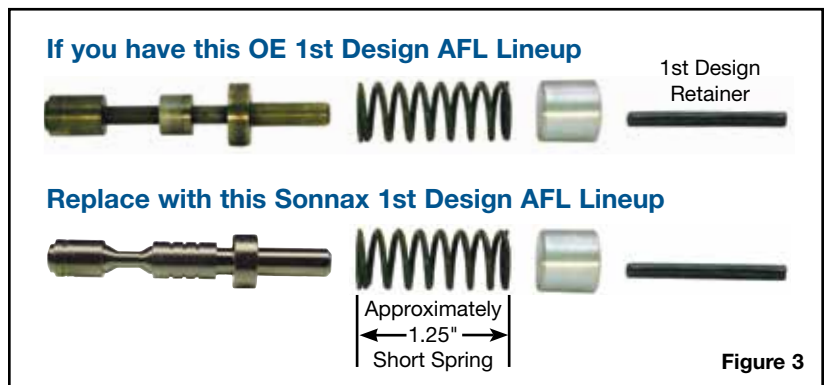

Figure 3
- c1. If 1st OE design AFL lineup was originally installed, use Sonnax short spring (**Figure 3**).
e. For OE 1st design lineup, reinstall OE spacer and retainer (**Figure 3**, same as c1 above).